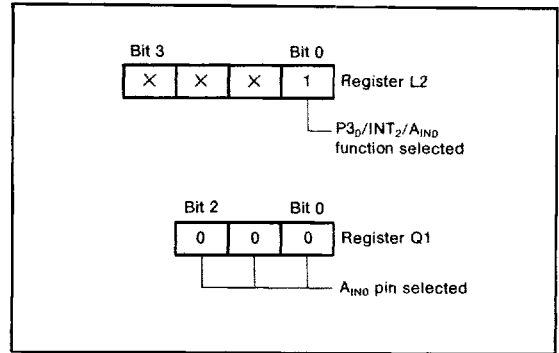

Fig. 52 Register setting example
- ① Select the P3₀/INT₂/A_{IN0} function with the bit 0 of LCD control register (L2) and then select the A_{IN0} pin with the A-D control register (Q1) (refer to Fig. 52).
- ② Execute the SNZAD instruction and clear the ADF flag to "0".
- ③ Execute the ADST instruction and start A-D conversion.
- ④ Examine the state of the ADF flag with the SNZAD instruction to determine the end of A-D conversion.
- ⑤ Transfer the high-order 4 bits of the converted data to M (0, 0, 0) from register HA through register A (TAHA instruction).
- ⑥ Similarly, transfer the low-order 4 bits of the converted data to M (0, 0, 1) from register LA through register A (TALA instruction).